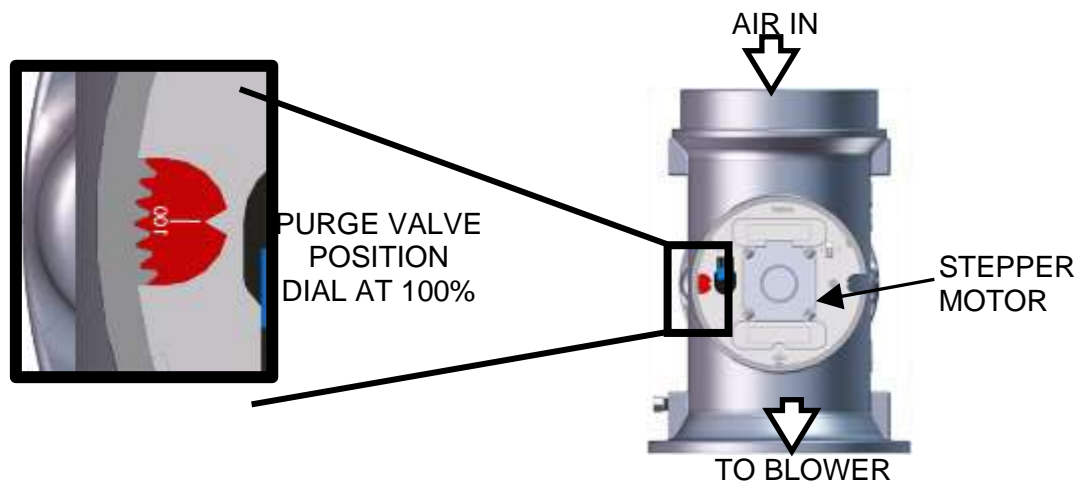

Figure 3-4: Air/Fuel Valve in Purge Position
- B. THE AIR/FUEL VALVE ROTATES TO THE FULL-OPEN PURGE POSITION AND CLOSES PURGE POSITION SWITCH. THE DIAL ON THE AIR/FUEL VALVE (FIGURE 3-4) WILL READ **100** TO INDICATE THAT IT IS FULL-OPEN (100%).